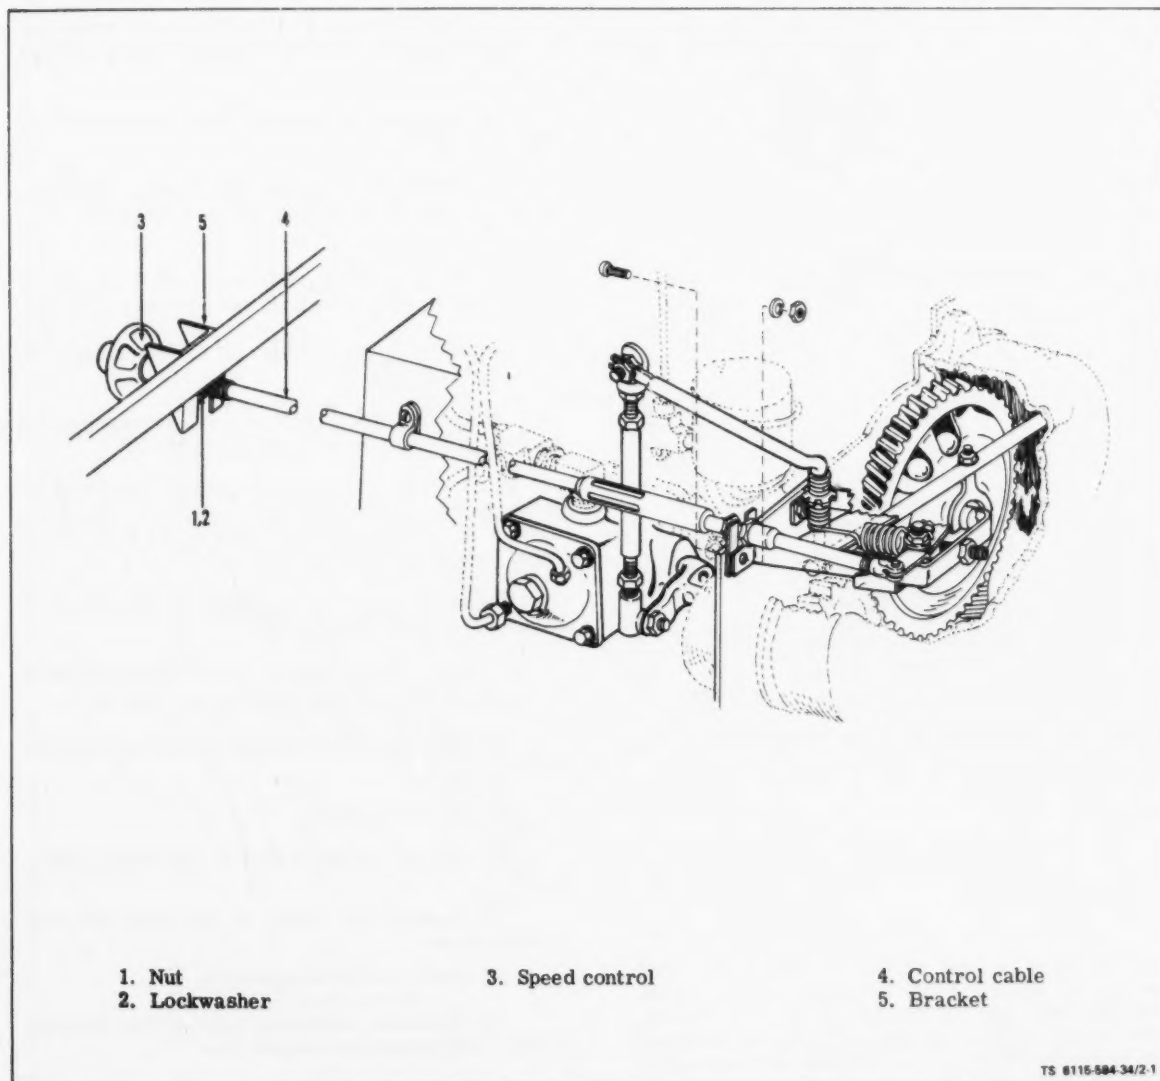
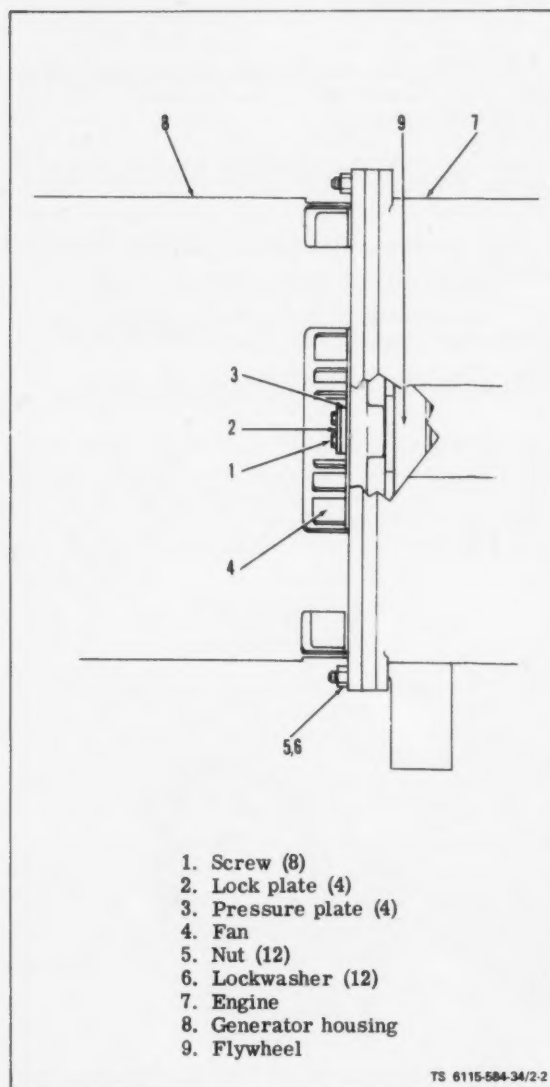

Figure 2-1. Speed Control Assembly
Figure 2-2. Disconnecting Engine from Generator
(1) Disconnect and remove batteries.
(2) Tag and disconnect battery cables and ground cable from starter.
(3) Tag and disconnect wiring harness and electrical leads from engine.
(4) Disconnect air cleaner hoses from shutter assembly and intake manifold. Remove air cleaner and bracket assembly from top of generator.
(5) Disconnect fuel line from fuel filter at fuel check valve. Disconnect flexible fuel return line to top of fuel injection pump.
(6) Disconnect oil drain hose from mounting on skid-base and drain oil.
(7) Disconnect and remove fuel tank.
(8) Disconnect speed adjustment assembly (see figure 2-1). Loosen nut (1) and lockwasher (2) and slide from bracket (5).
(9) Connect a suitable lifting device and support engine.
(10) Disconnect engine from generator assembly. See figure 2-2.
(c) Using a 5/8" socket wrench on hex head capscrew at center of blower wheel, rotate engine clockwise until one of the four sets of screws (1, figure 2-2) attaching generator fan (4) and coupling plate to engine flywheel is accessible thru opening in generator housing (8). Straighten locking tabs and remove the two screws (1) and the locking plate (2) and pressure plate (3).
(a) Install two 1/4-20 x 2 in. pilot studs into the engine flywheel (9, figure 2-2) in two holes that are 180° apart.
(3) Attach engine speed control (3, figure 2-1) to bracket (5) and tighten nut (1).
(4) Refer to Operator and Organizational Maintenance Manual and proceed as follows: